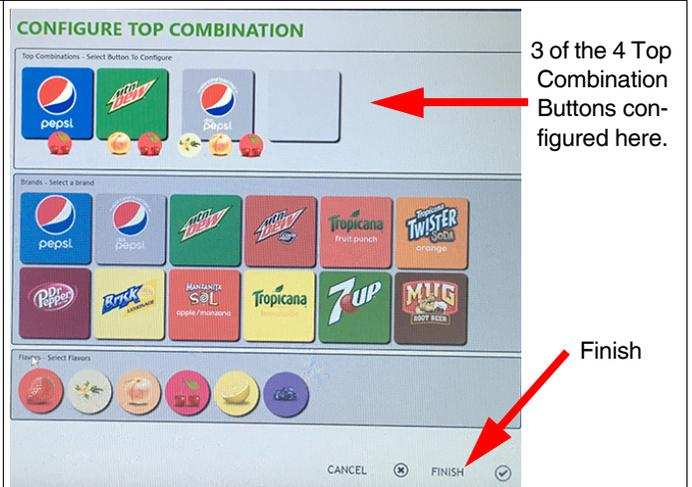

Figure 46
7. Repeat steps 3 through 6 to configure each of the remaining buttons that will appear at the top of the user interface (up to six (6) buttons).
Figure 46 shows another example where three (3) buttons are configured as preset drink combinations.